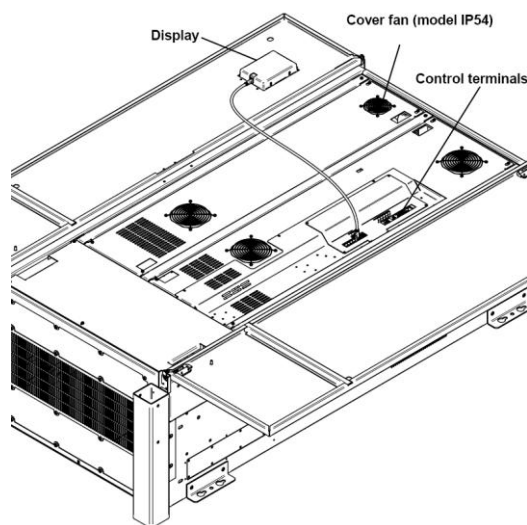
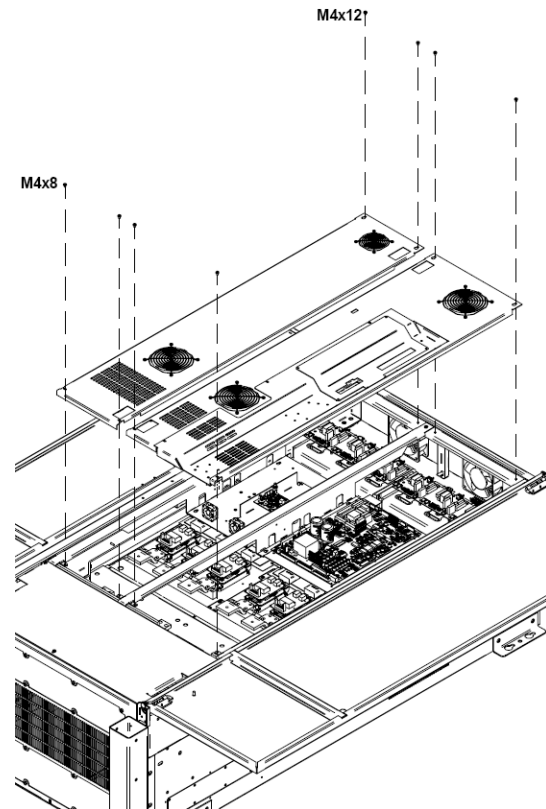

Figure 5.1 Disconnect the Display and the control terminals
Figure 5.2 Disassembly of the covers
Follow figure 5.1 y la figure 5.2 while reading these instructions:
- 1) Place the covers on the chassis as it is shown in figure 5.2.